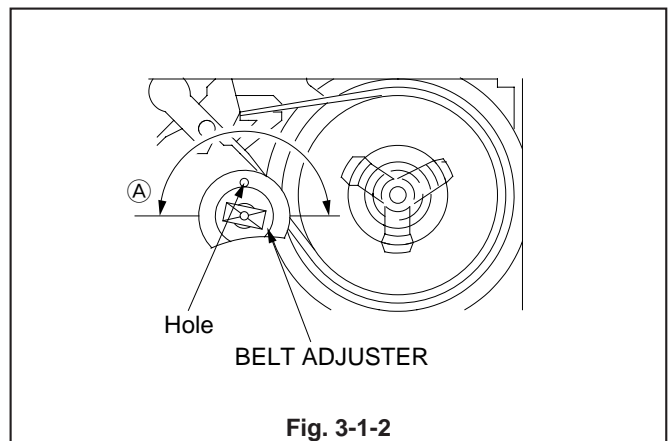

Fig. 3-1-2
3. If "A" is not 0.3 ± 0.3 mm, move the hole in the BELT ADJUSTER in Fig. 3-1-2 within the range shown by arrow (A) to set "A" to 0.3 ± 0.3 mm.